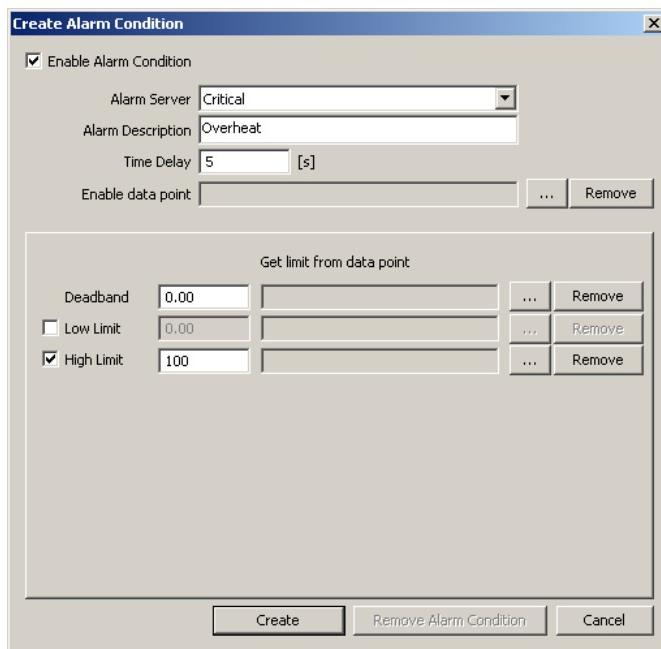

Figure 123: Alarm Condition for an Analog Data Point.
3. For an analog data point, the dialog as shown in Figure 123 appears. Select the **Alarm Server**. Optionally, enter an **Alarm Description**. If left empty, the description of the data point is used. Enter a **Time Delay**, after which the condition is evaluated. Select **Low Limit** and **High Limit** and put check marks, if they shall be employed. Enter a **Deadband** to account for hysteresis.